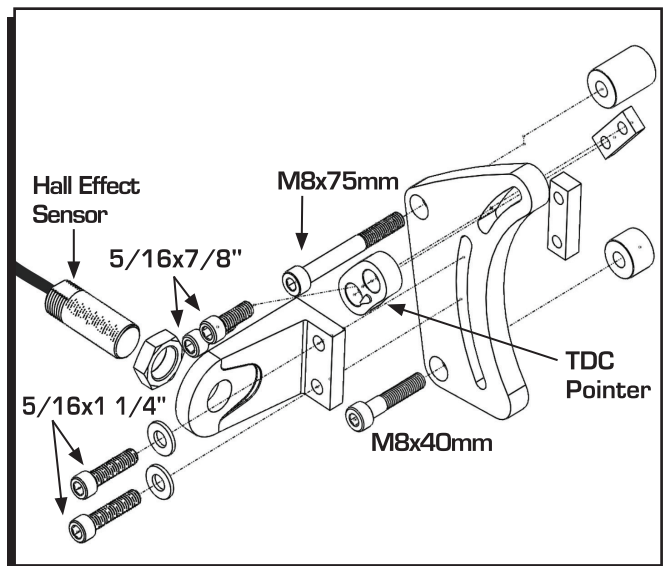

Figure 1. Pickup Bracket Assembly.
1. Mount the pickup holder and pointer assembly onto the bracket using the two 5/16x1 1/4" thread bolts (Figure 1). The pickup base will only install one way, do not try to force the bolts in, and hand tighten the bolts.